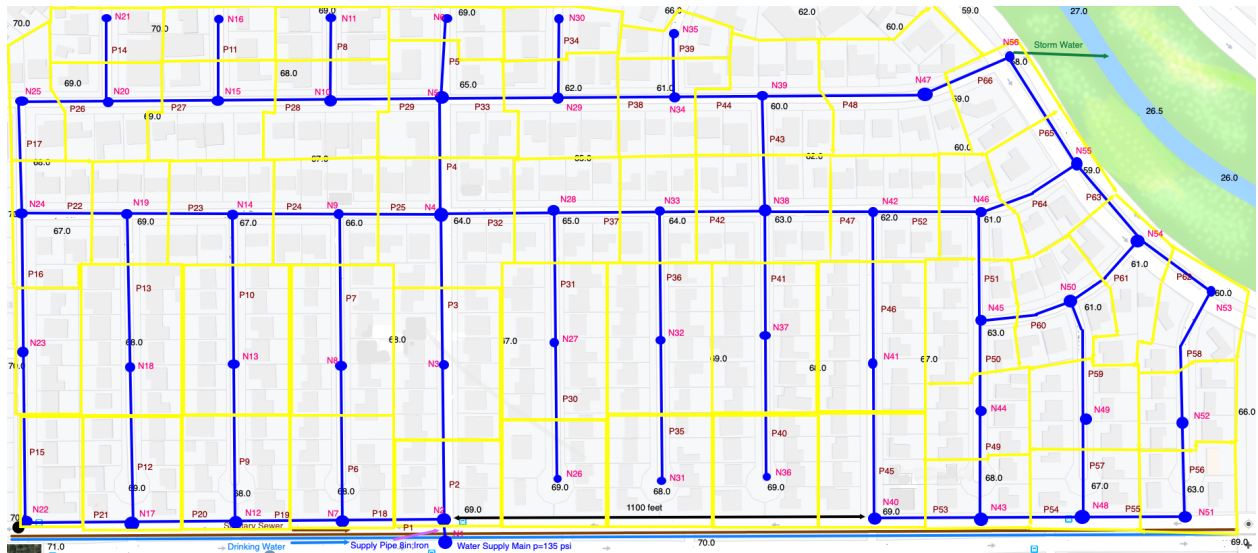

Figure 2: Water Distribution (Skeleton) System.
2. Figure 2 is a layout of a water distribution system for the subdivision. The blue line segments are pipes and are labeled (P1, P2, ...). The blue circles are nodes and are labeled (N1, N2, ...). The yellow polygons represent the demand lots assigned to each node. For example, node N2 supplies the six (6) individual lots located near the node.